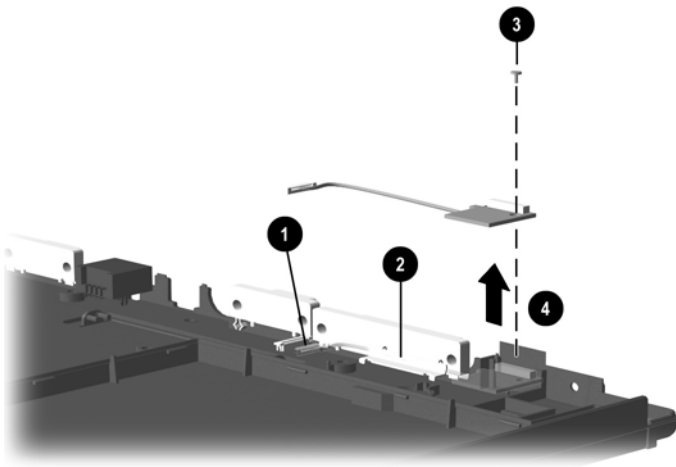

Figure 5-18. Removing the Infrared Board
2. Disconnect the infrared board cable ❶ from the system board (Figure 5-18).
3. Remove the infrared board cable from the metal clip ❷ through which it is routed.
4. Remove the black M2 × 4.0 screw ❸ that secures the infrared board to the base enclosure.
5. Lift the infrared board ❹ out of the base enclosure.